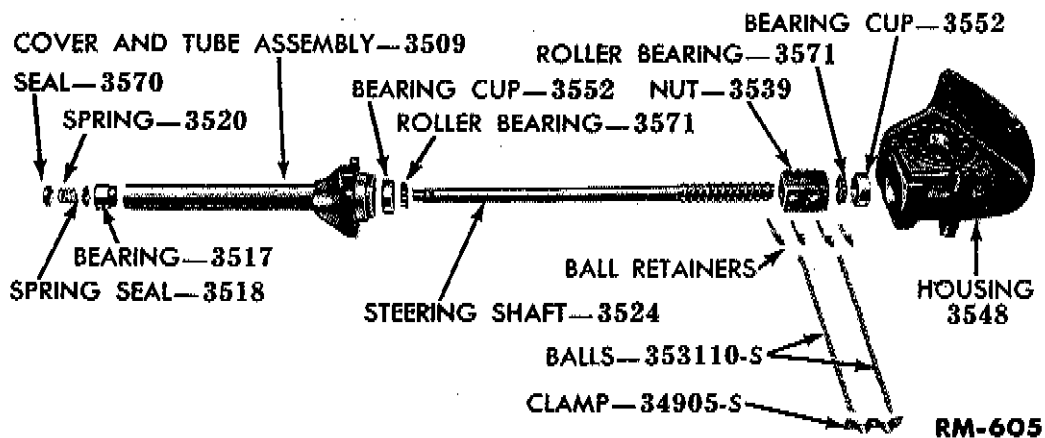

Fig. 2—Steering Tube Shaft, Disassembled
Rotation of the steering tube shaft moves the ball nut along the worm. The left steering sector engages the rack on the ball nut, and is thereby rotated through an arc by the movement of the ball nut (fig. 2). The right sector engages the left sector and rotates the same number of degrees in the opposite direction. The pitman arms transfer the motion of the sector to the spindle arms through the drag links.
Remove the three screws and clamp from the ball nut assembly (fig. 2). Lift the two ball retainers from the assembly and remove the ball bearings.
(1) **STEERING TUBE.** Replace the steering tube (fig. 2) if it is bent or otherwise damaged. Replace the bearing race if it is scored or pitted. If the bearing at the top of the steering tube is damaged, it must be replaced.
Position a roller bearing in the bearing race in the housing on the upper bearing race of the shaft (fig. 2).